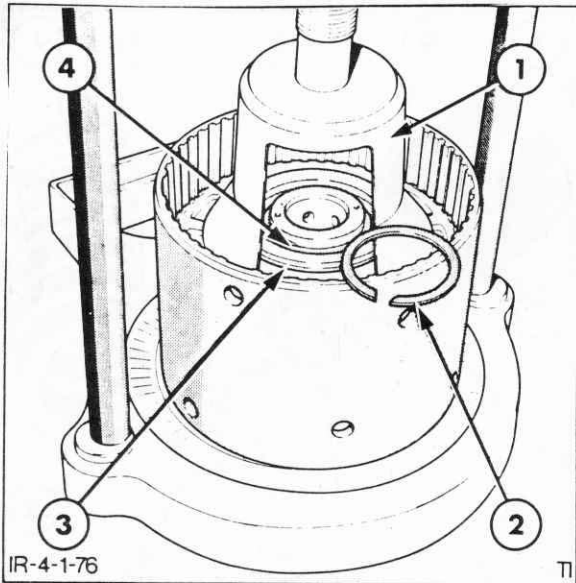
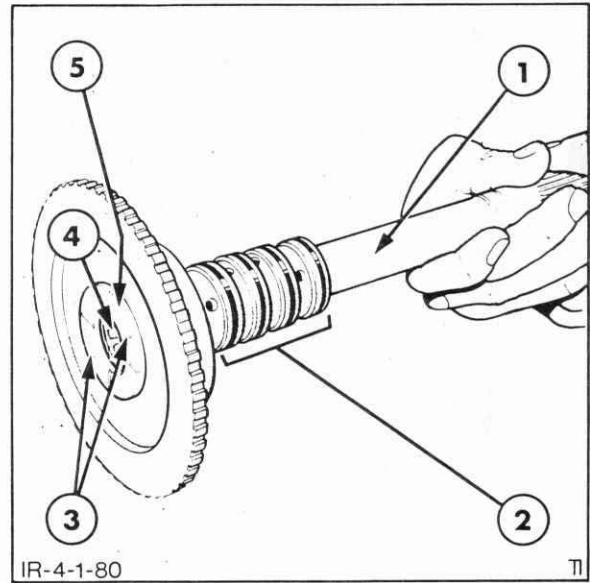

Figure 4-179
Figure 4-182
5. Using a press and modified Tool #FT4101 or FNH01312 (see specifications), along with a suitable size washer as shown in Figure 4-179, compress the spring enough to remove the snap ring with a screwdriver. Gradually, relieve pressure
1. Thoroughly clean the front input shaft and bearings, Figure 4-182, and the clutch components, Figure 4-179, with suitable solvent and allow to dry. Use air to clean out the oil passages in the input shaft and clutch housing. Do not spin the bearings with compressed air.
2. Check the ball bearing on the front input shaft, Figure 4-182, for smooth rotation. If the bearing is worn, a new one should be installed during assembly. Also check the needle pilot bearing in the rear face of the shaft for smooth rotation.
2. Position the spring and spring seat on the piston, then compress the spring with a press, using modified Tool #FT4101 or FNH01312, and a suitable washer, as shown in Figure 4-179, so the snap ring is fully seated before relieving pressure on the spring.